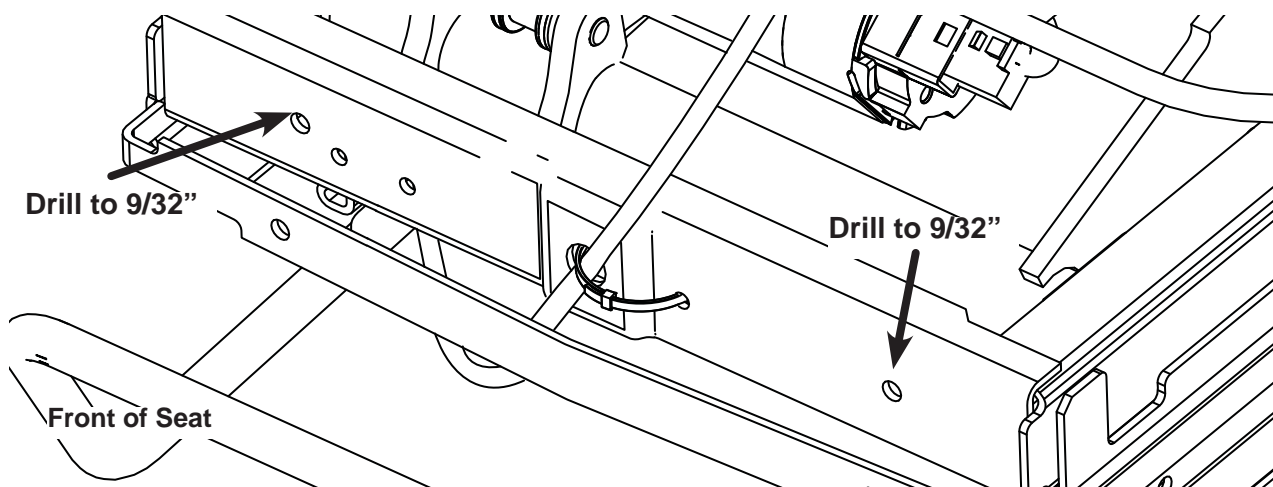

Fig. 14
21. Open up (2) outboard 5mm holes on front of seat by drilling (2) 9/32" holes as shown in Fig. 14 using 9/32" Drill ensuring not to damage fore/aft adjuster handle